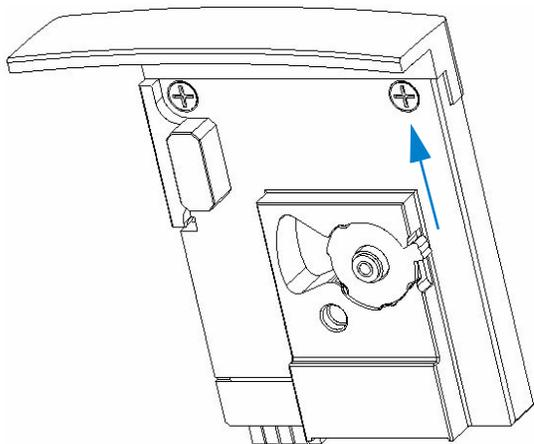

Figure 18 Opening the ring of the pressure cartridge
- 4 Move the ring holding the adapter in place to the left as shown in Figure 18, “Opening the ring of the pressure cartridge”. The ring will come off.